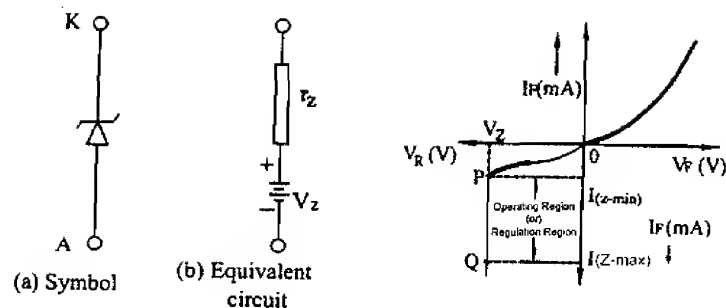

Fig:14.25
Zener diode is a specially designed PN junction diode. It is a heavily doped PN junction diode. The symbol and equivalent circuit of a Zener diode is shown in the Fig:14.25(a) and (b).
The operation of the Zener diode is same as that of an ordinary PN junction diode in forward biased condition. But in reverse biased condition, break down may occur in the junction of the diode. The breakdown voltage depends upon the amount of doping. Heavily doped diodes breakdown at low voltage levels. Similarly, lower doped diodes breakdown at high voltage levels. The VI characteristics of Zener diode is shown in the Fig:14.25 (C).